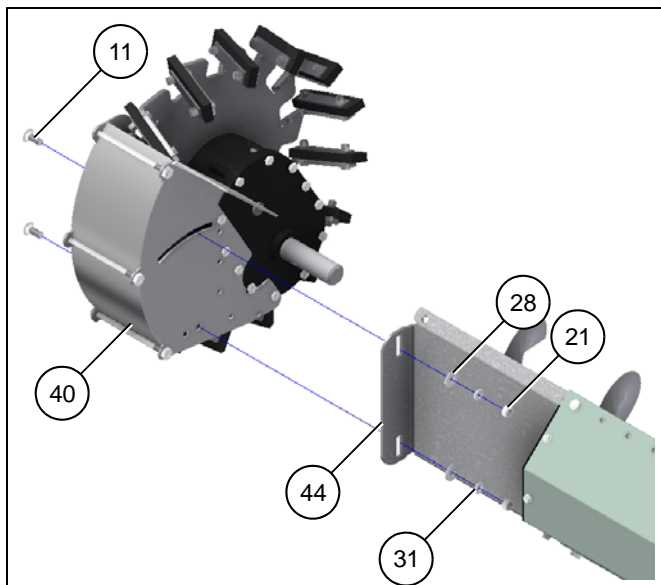

Figure 4W
1. Install the elevator wheel assembly (40) to the end of the sweep backplate (44) using 3/8" x 1" carriage bolt (11), 3/8" flat washer (28), 3/8" lock washer (31) and 3/8" hex nut (21). *(See Figure 4W.)*